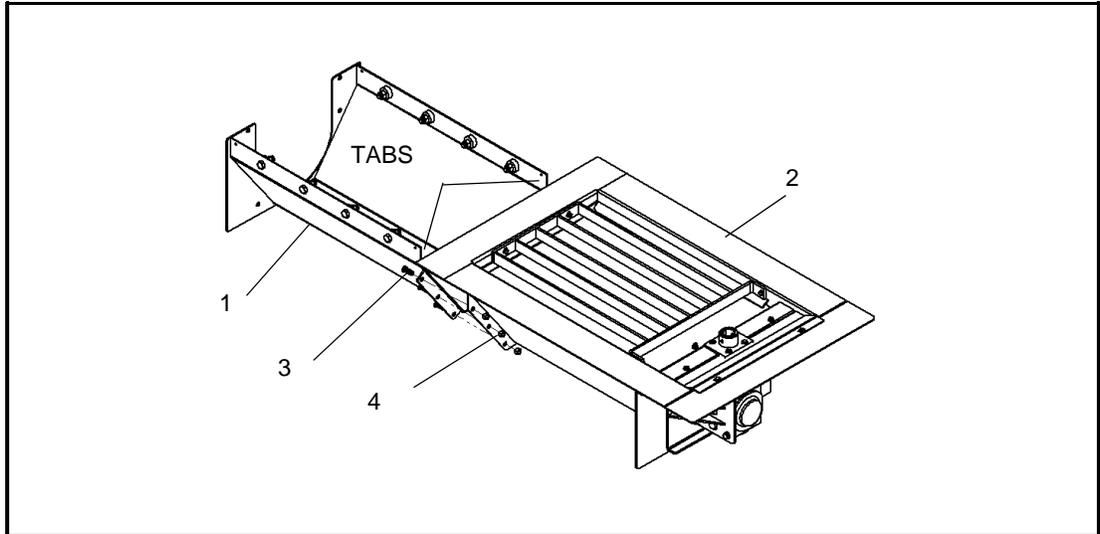

Figure 3.2
3. Insert tabs in extension hopper to notches in center hopper (see Figure 3.2). Bolt center hopper extension (1) onto center hopper (2) with six 3/8" x 1" bolts (3) and 3/8 locknuts (4); do not tighten.